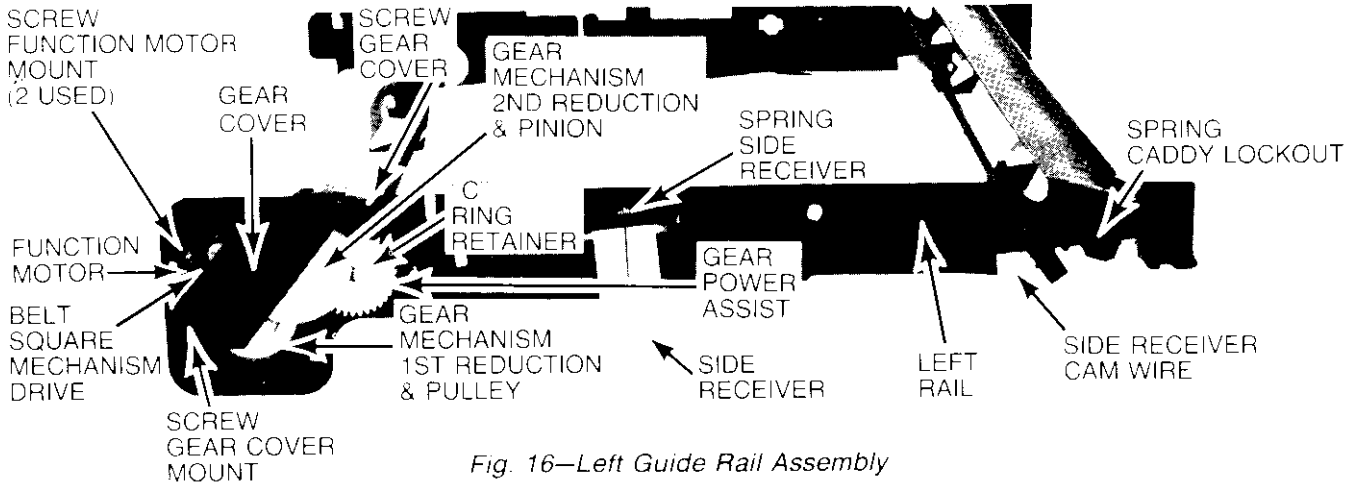
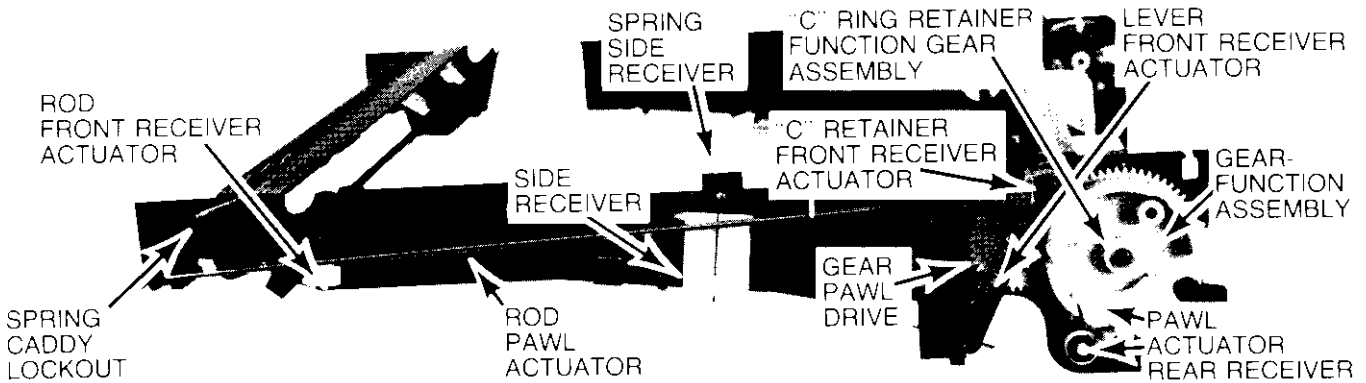

Fig. 16—Left Guide Rail Assembly
Fig. 17—Right Guide Rail Assembly
2. Remove two (2) posi-drive (+ head) screws and remove gear cover Fig. 16.
3. Remove square drive belt Fig. 16.
4. Remove two (2) small posi-drive (+ head) screws and remove function motor.
1. With guide rail assembly removed from player—remove retaining rings from function gear and receiver actuator (Fig. 17).
2. Release front receiver activating rod (Fig. 17) held captive by plastic tab on right rail assembly.
5. Remove receiver actuator rod (Fig. 17) from right rail assembly and side receiver wire cam (Fig. 16) from left rail.
6. Remove retaining ring holding pawl drive gear (Fig. 17) captive—remove pawl drive gear.
7. Remove retaining ring holding the power assist gear (Fig. 17) captive. Remove power assist gear.
8. Remove caddy lockout springs (Figs. 16 & 17) right and left sides. Remove caddy lockouts (Figs. 16 & 17).
1. With cabinet top, receiver spindle assembly and guide rail bracket removed—use thumb to rotate mechanism drive 2nd reduction gear (Fig. 16) in clockwise direction to place mechanism in "PLAY" mode while holding AC switch (S2) actuator (Item 47, Fig. 47) back out of the way. Immediately stop rotating mechanism 2nd reduction gear when Disc Transfer Rod Coupler (Item 38, Fig. 47) activates "PLAY" Switch S7 (forwardmost switch mounted on plastic AC IN board mounting bracket beside mechanism function gear).